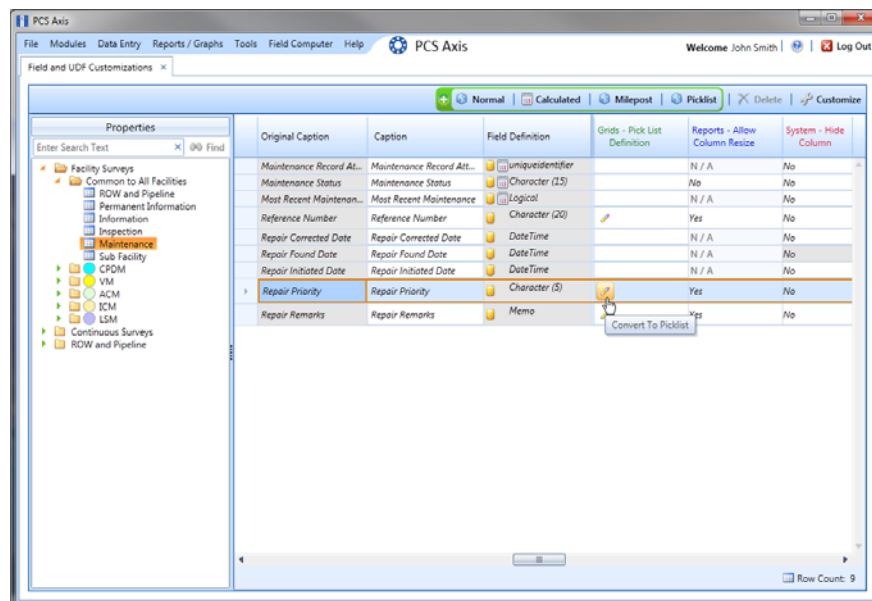

Figure 2-33. Field and UDF Customizations
For example, double-click **Facility Surveys > Common to All Facilities > Maintenance** to display a grid with fields and property settings related to all *Maintenance* data entry grids (Figure 2-33).
- 5 Convert the selected data entry field to a picklist field. Click the edit icon  in the *Grids-Picklist Definition* field for the data entry field selected earlier, such as *Repair Priority* (Figure 2-33, page 68).